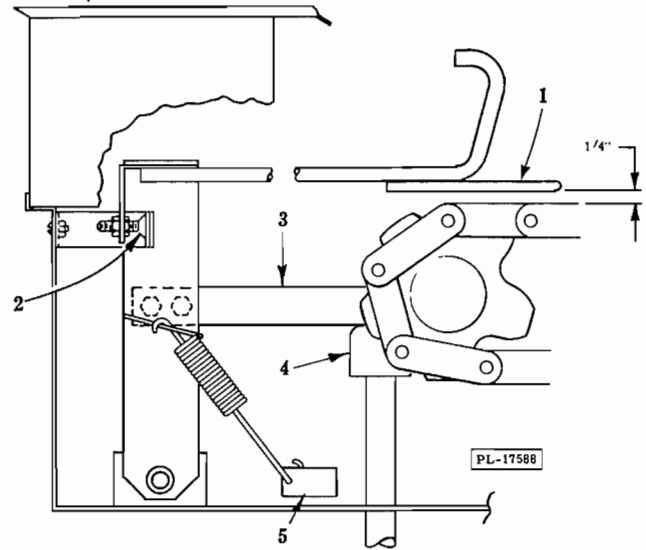
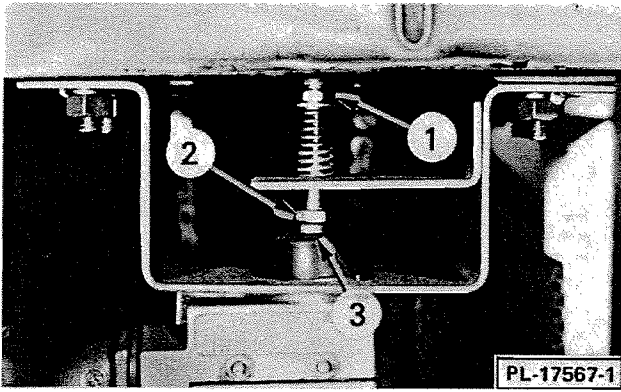

Fig. 10
Fig. 11
To adjust, raise the safety stop assembly fingers (1, Fig. 10) of the safety stop assembly. Loosen the plunger bolt jam nut (1, Fig. 11) and adjust clearance between plunger bolt (2, Fig. 11) and limit switch (3, Fig. 11) to 1/16". Tighten jam nut.
Loosen the two mounting bolts on the actuator arm (3, Fig. 10) and position the arm 1/4" from its stop (4, Fig. 10). Tighten the bolts.
Loosen the stop plate nuts and adjust the stop plate (2, Fig. 10) so the outside of the safety stop assembly fingers (1, Fig. 10) are centered with and 1/4" above the conveyor rollers.
Hook the conveyor trip springs (2) in the appropriate holes (5, Fig. 10) so that the smallest and lightest dish to be washed will easily trip the safety stop.